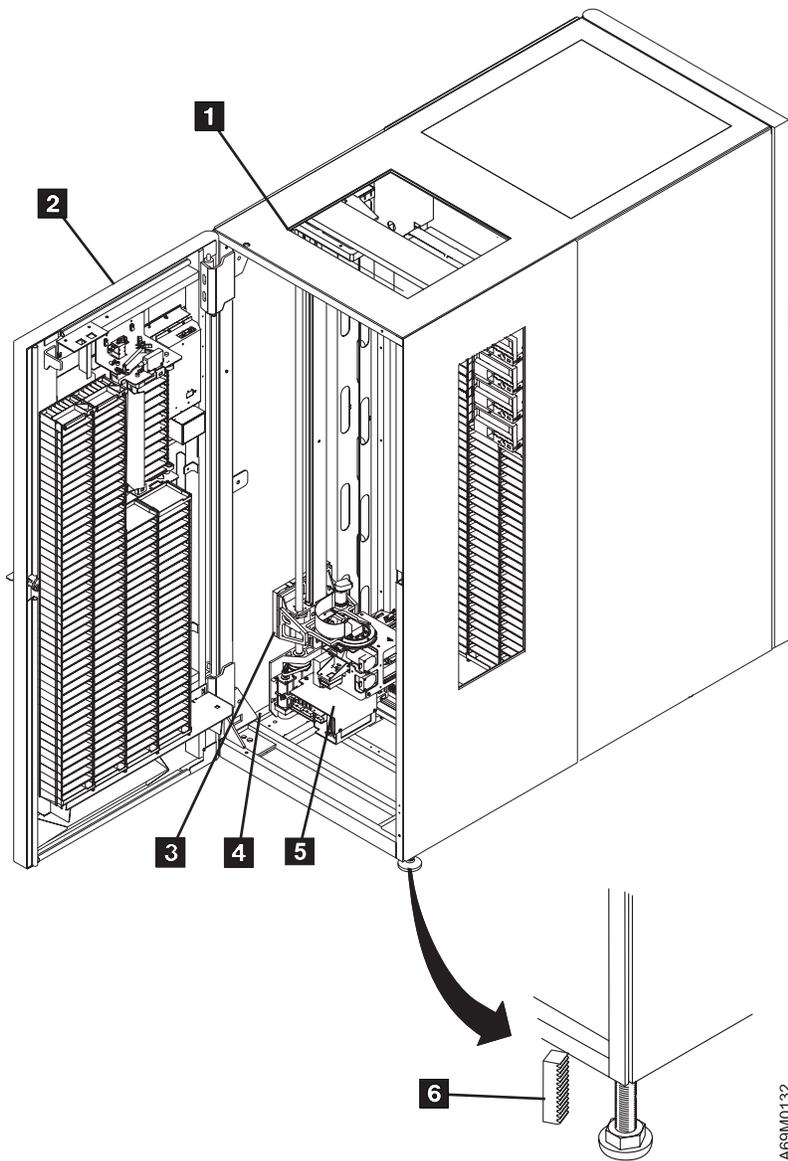

Figure 28. Base Frame
Refer to Figure 28 on page 81 as you unpack the library:
- ___ 6. Using the 5/16" hex bit (supplied with the base frame), adjust the leveling pads so that the clearance from the floor to the bottom of the frame is approximately 113 mm (4.5 in.) at all four corners of the base frame. The frame should be approximately level, and the casters must be off the floor. You may use the rack alignment tool P/N 50G0406 **6** as a floor-to-frame clearance gauge for your initial adjustment. The tool length is 84 mm (3.3 in.). Refer to Figure 28 on page 81.